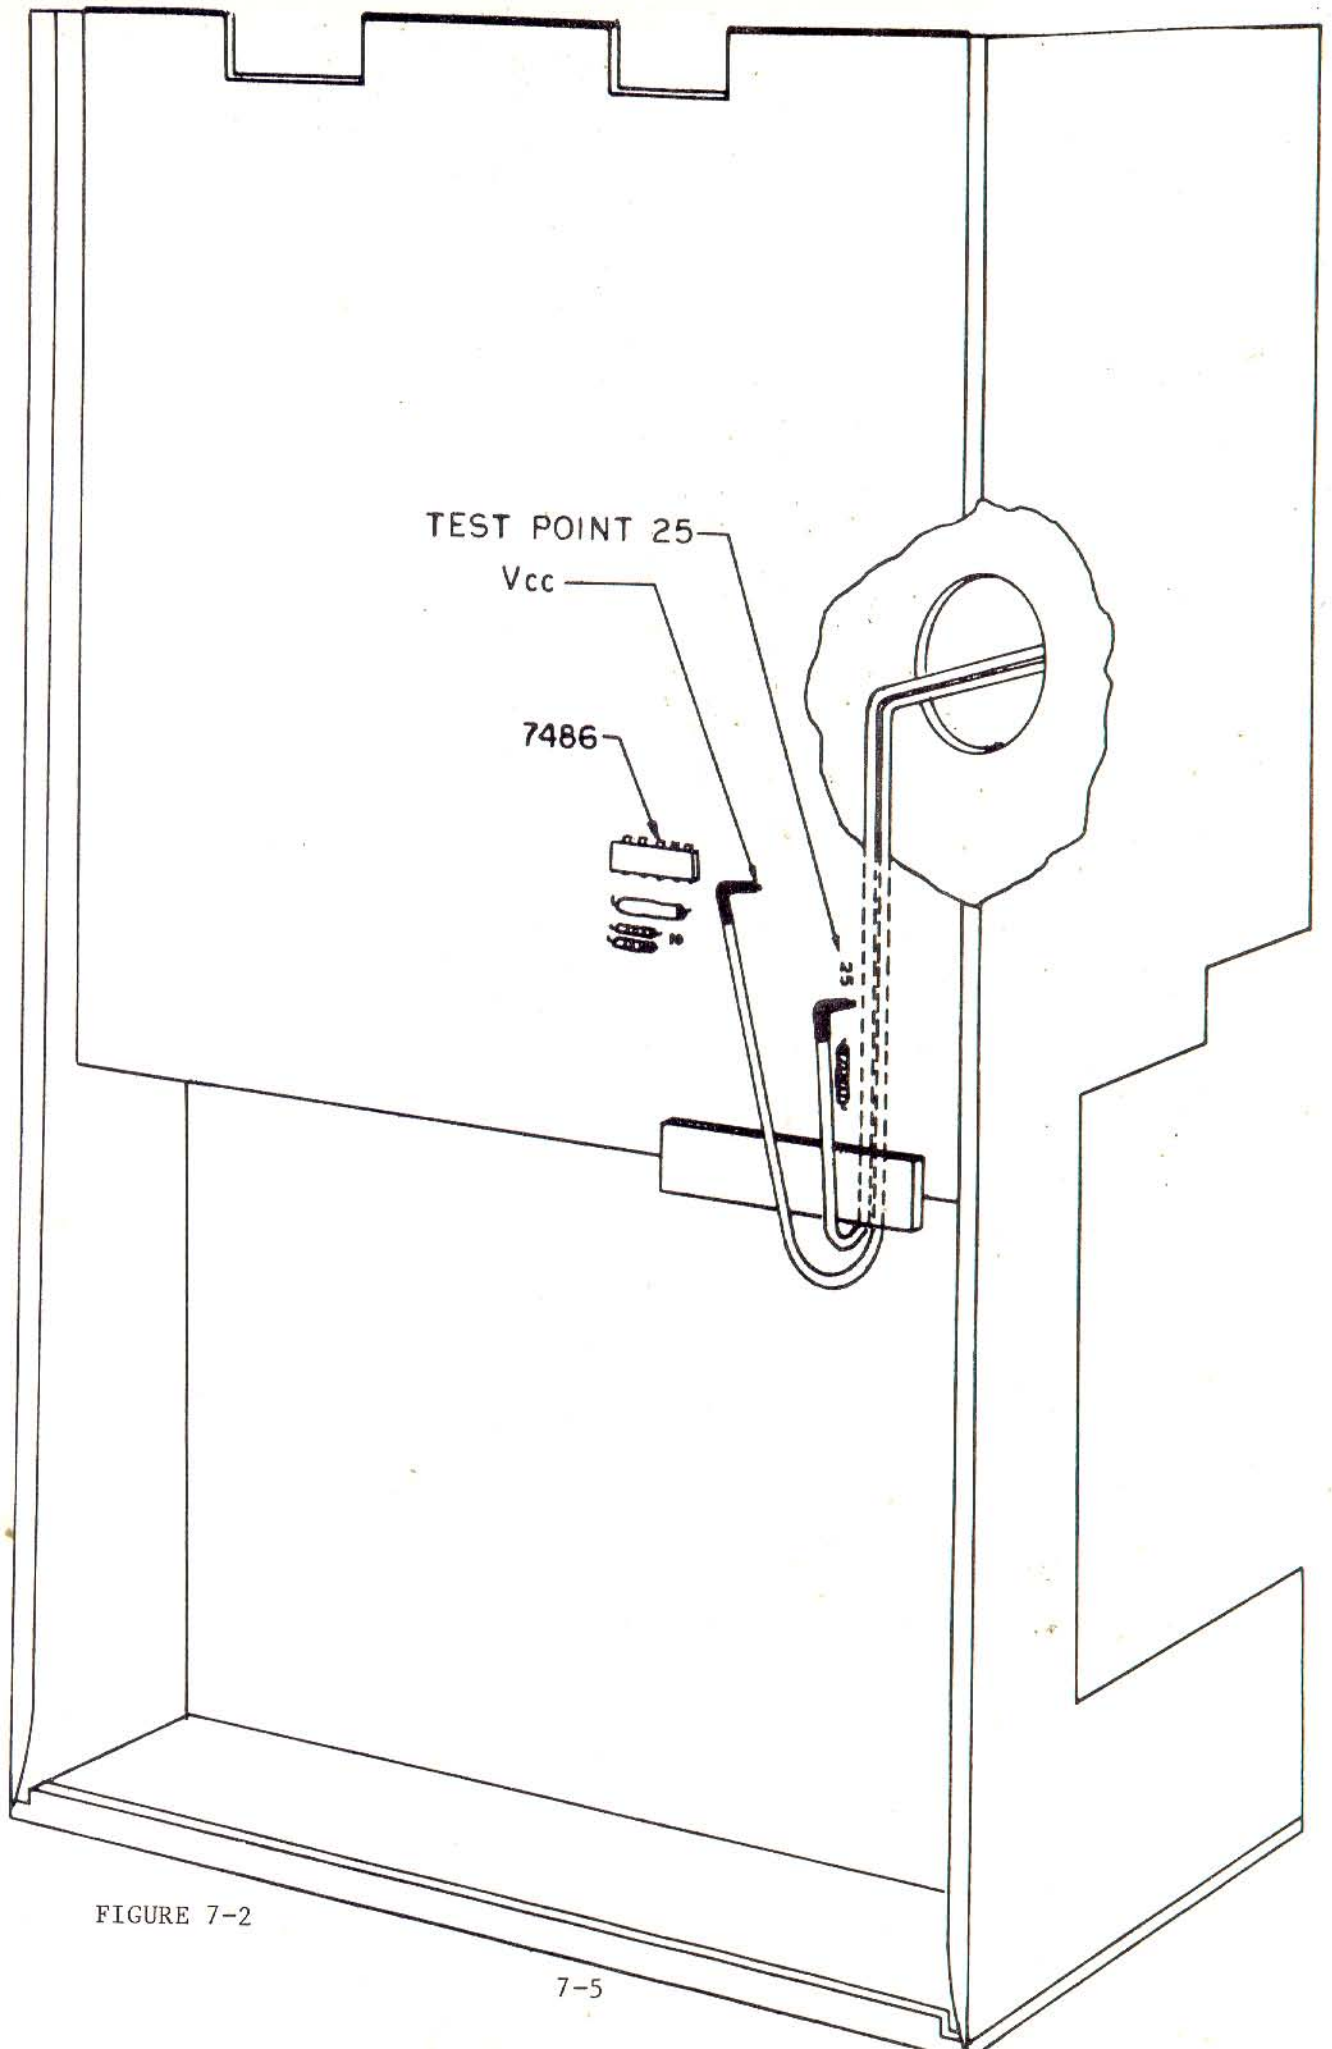

FIGURE 7-2
- (1) The jumper marked HL is moved to DS.
- (2) The jumper marked DS1 is removed. If one wishes the drive to respond as unit 0, place this jumper at DS3. For response as unit 1, the jumper should be placed at DS4.
- (3) The write protect switch is wired between Test Point 25 and VCC (see Figure 7-2).